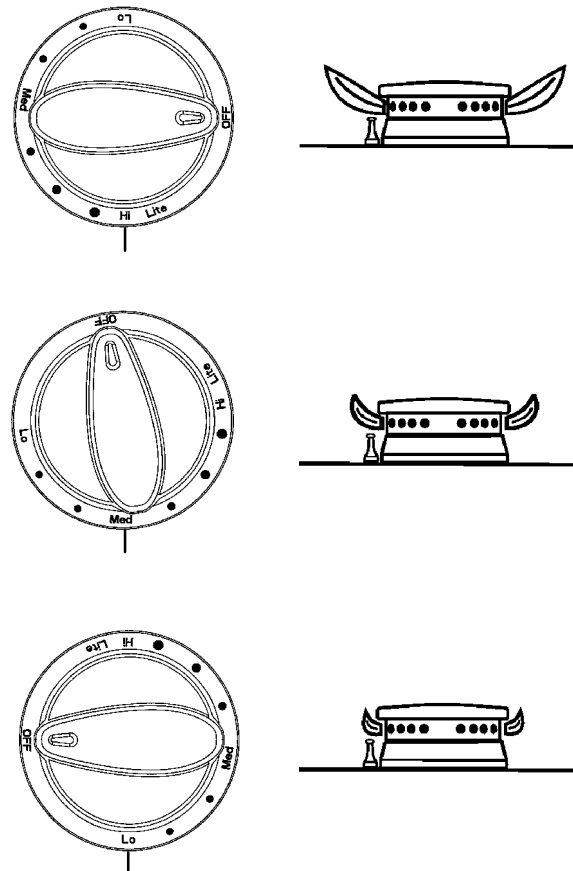

FIGURE 12
After Conversion Steps A, B and C have been completed, check the appearance of each burner flame at the Hi and Lo settings against figure 12. If the flames appear too large or too small, review each step to make sure it was completed correctly.
6. Starting from the LP position (see #5 on page 8, under C. LOW FLAME ADJUSTMENT), turn the screw counter clockwise until the flame stabilizes and matches the pictured "low" setting on figure 12. Proper adjustment will produce a stable, steady blue flame of minimum size. The final adjustment should be checked by turning the knob from high to low several times without extinguishing the flame.
After Steps A, B and C have been completed, check the appearance of each burner's flame at the Hi and Lo settings against figure 12. If the flames appear too large or too small, make sure all steps were completed